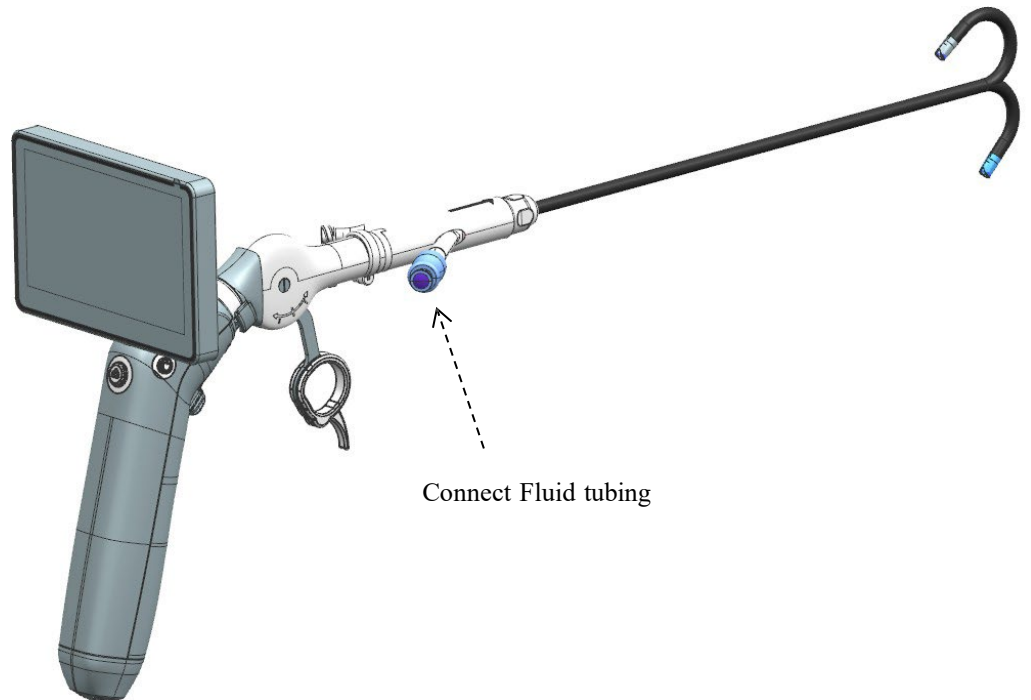

Figure 3. Connect tubing
- 5.3.3. Connect tubing from the source of the fluid to the Luer lock connector port on the side of the cystoscope's disposable cannula. See Figure 3.